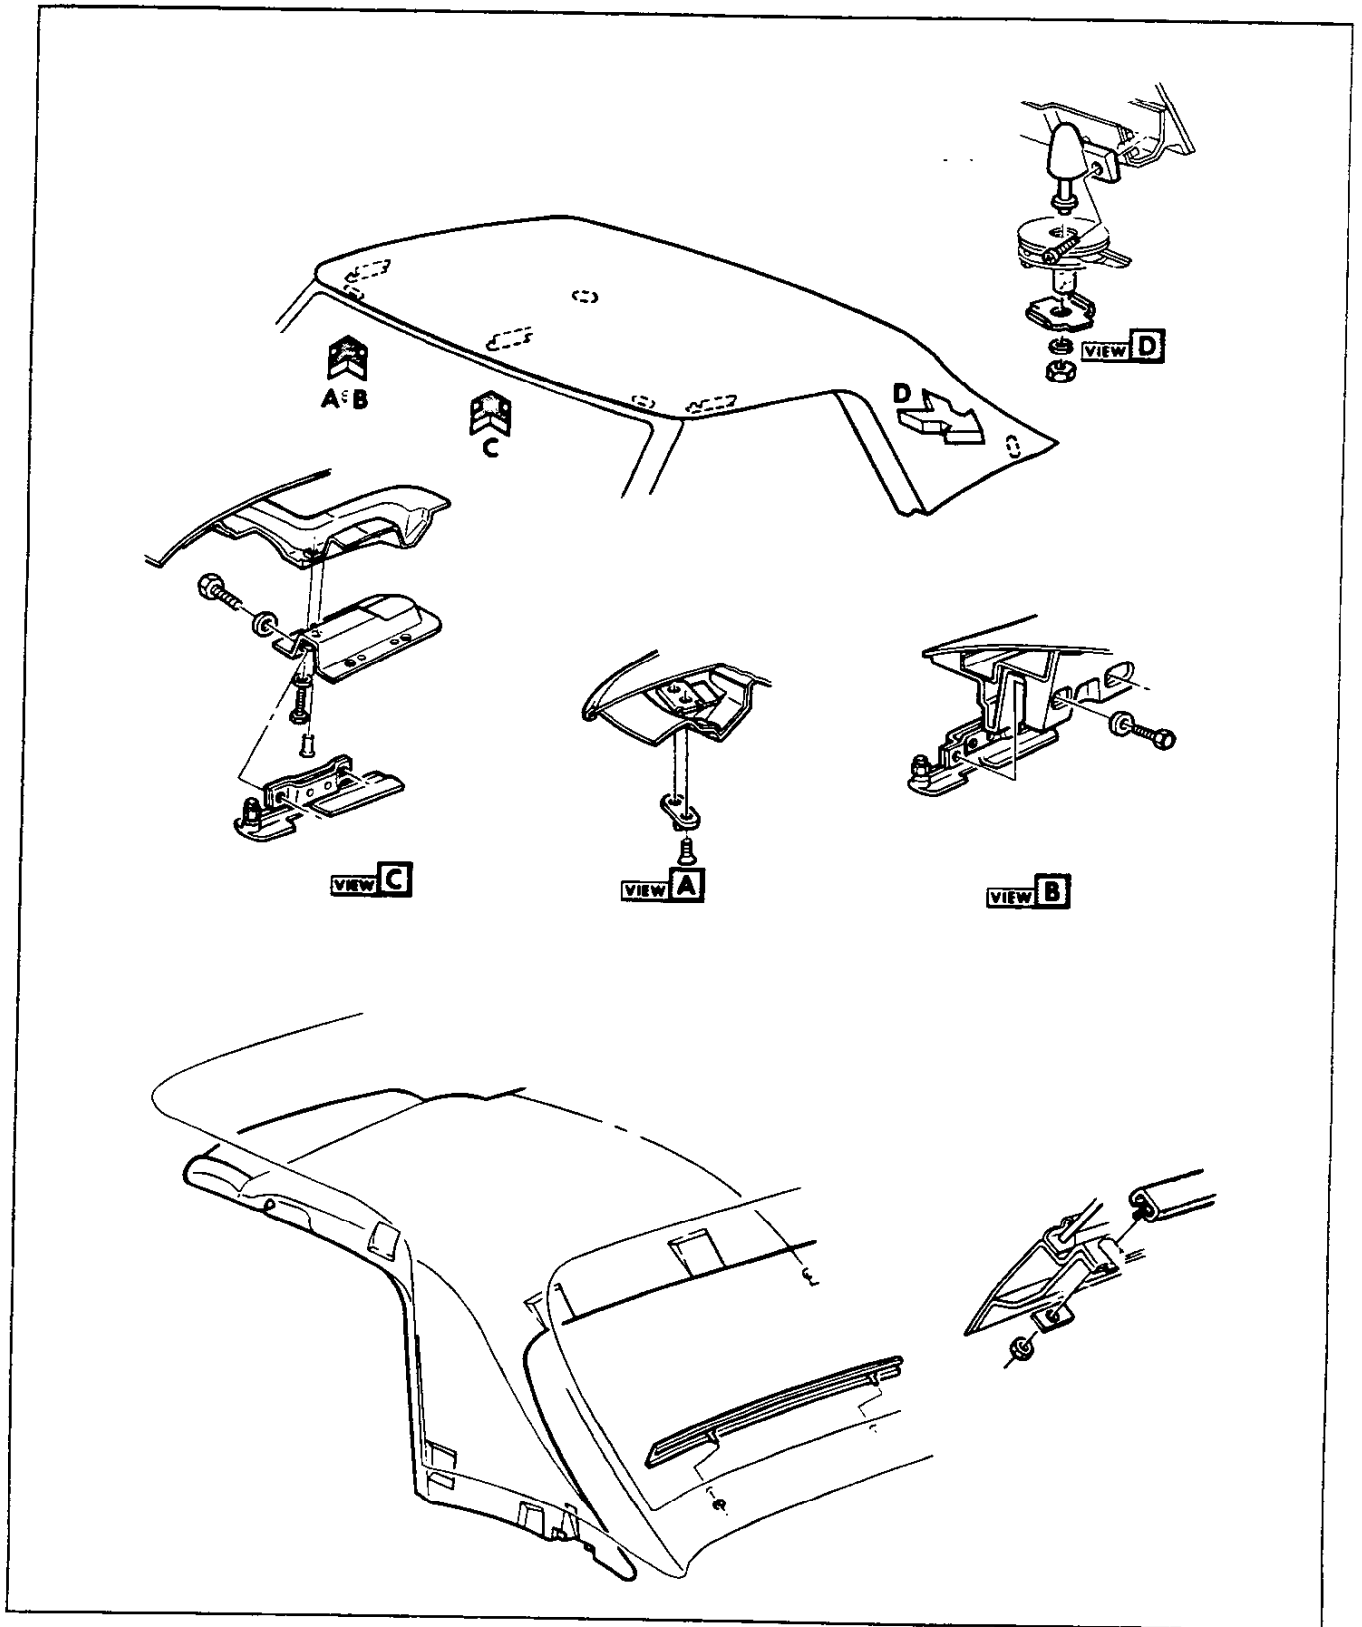

Fig. 66-Top Attachments and Headlining (Convertible Hardtop)
Figure 66 illustrates location and installation of guides and lock mechanisms. With headlining removed as outlined in this section, to adjust left and right hand locks fore and aft, mark original position, loosen two (2) mounting bolts, and move in desired direction. Make certain that lock is engaged in serrations before tightening mounting screws.